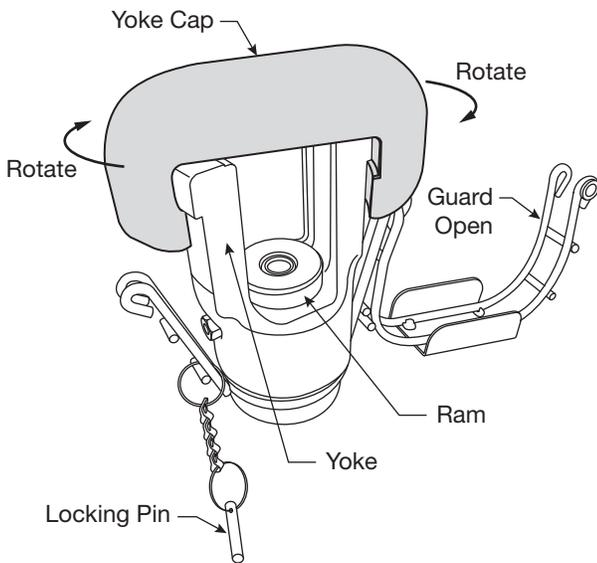

FIGURE 1
- 1) Pull locking pin from tool guard and swing open top half of guard (Figure 1).
- 2) Hold yoke and rotate yoke cap, until yoke cap releases from the yoke (Figure 1).